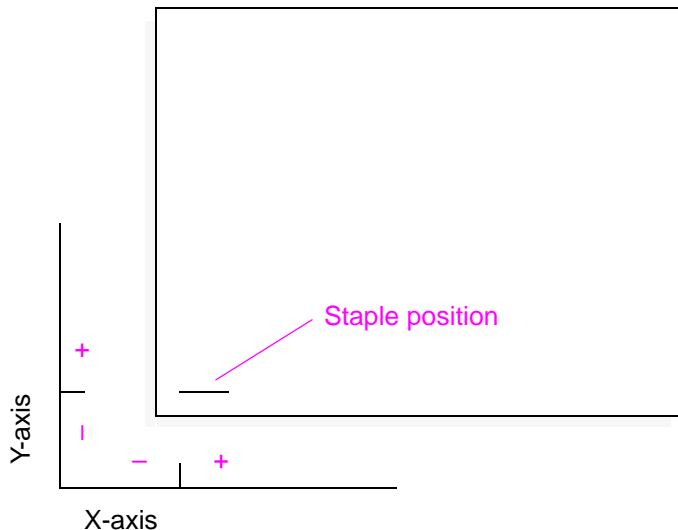

Figure 239. Staple position
- 12 Check the staple position of the 10-page print job against the staple position in figure 239 on page 483.